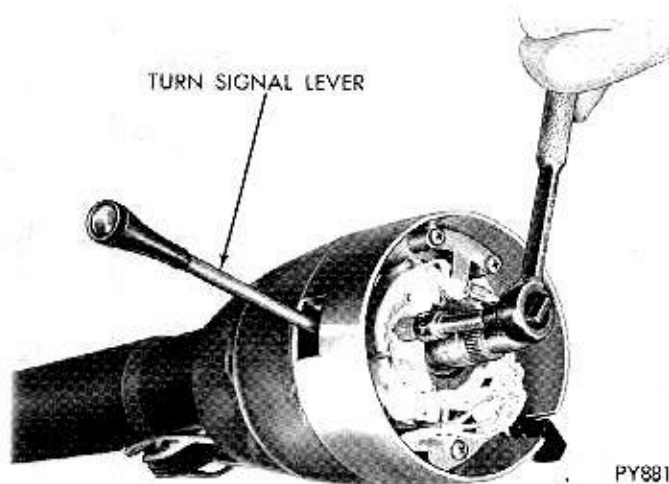

Fig. 2—Turn Signal Lever
(3) Remove steering shaft lower coupling to wormshaft roll pin.
(4) Disconnect wiring connectors at steering column jacket.
(5) Remove horn ring ornament assembly.
(6) Disconnect wire at horn switch. Remove screws attaching horn ring and switch to steering wheel, then remove horn ring and switch.
(7) Remove steering wheel retaining nut and washer. Remove steering wheel with Tool C-3428A. **Do not bump or hammer on steering shaft to remove wheel.**
(8) Remove turn signal lever (Fig. 2).
(9) Remove floor plate to floor pan attaching screws. Remove finish plate from under instrument panel to expose steering column bracket.
(10) Remove nuts or bolts attaching steering column bracket to instrument panel support. If so equipped, save shim pack from between bracket forward leg and support for reuse during installation.
(11) Carefully pry lower coupling from steering gear wormshaft, then remove column assembly out through passenger compartment being careful not to damage paint or trim.